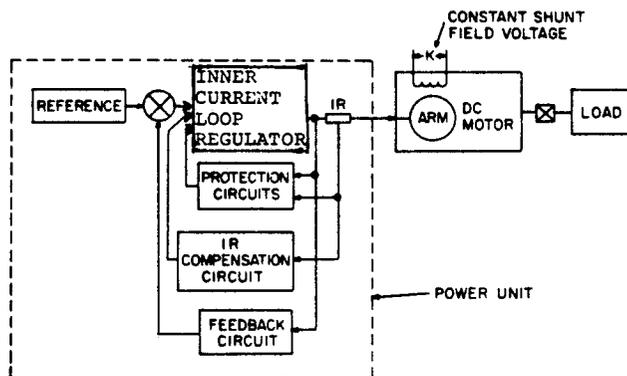

Figure 6-1. Block Diagram - Standard Drive with Armature Voltage Feedback
Figure 6-1 shows the simplified diagram of the standard drive using armature voltage feedback with load (IR) compensation. This method of speed control does not monitor speed directly. Armature voltage is measured as an approximate measurement of speed. Since the speed of a DC shunt motor will decrease slightly when load is applied, a load (IR) compensation circuit is included to compensate for load speed change.